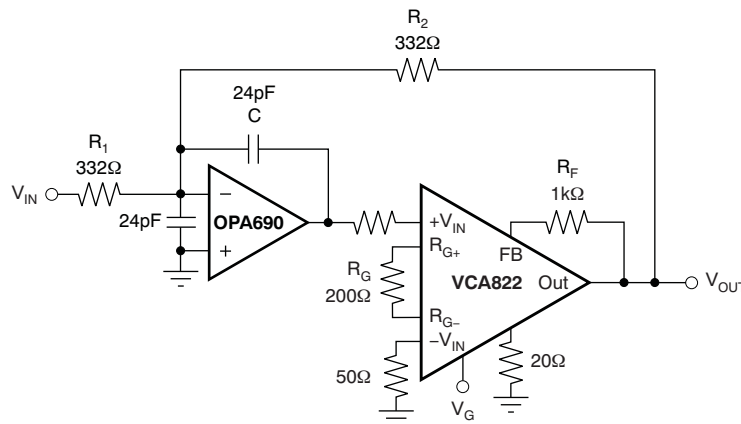

Figure 88. Voltage-Control Low-Pass Filter
In the circuit of Figure 88, the VCA822 device serves as the variable-gain element of a voltage-controlled low-pass filter. This section discusses how this implementation expands the circuit voltage swing capability over that normally achieved with the equivalent multiplier implementation. The circuit control voltage, V_G , is calculated as according to the simplified relationship in Equation 8:
Because the VCA822 device is most linear in the midrange, the median of the adjustable pole should be set at $V_G = 0V$ (see Figure 79, Figure 42, Figure 63, and Equation 10). Selecting $R_1 = R_2 = 332 \Omega$, and targeting a median frequency of 10 MHz, the capacitance (C) is 24 pF. Because the OPA690 was selected for the circuit of Figure 88, and in order to limit peaking in the OPA690 frequency response, a capacitor equal to C was added on the inverting mode to ground. This architecture has the effect of setting the high-frequency noise gain of the OPA690 to +2 V/V, ensuring stability and providing flat frequency response.